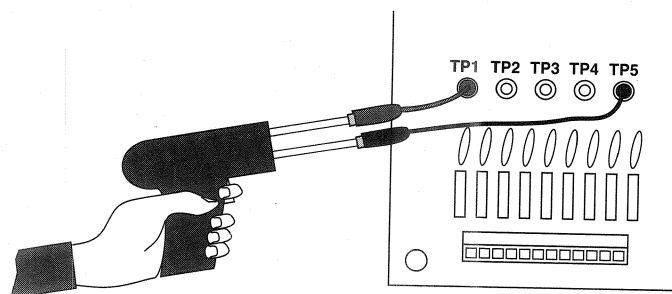

Figure 23.
4. Clip a short lead to one post of the gun and to test point TP5 (Common). See Figure 23.
5. Clip a short lead from the other post of the soldering gun to test point TP1 (Phase A) See Figure 23.